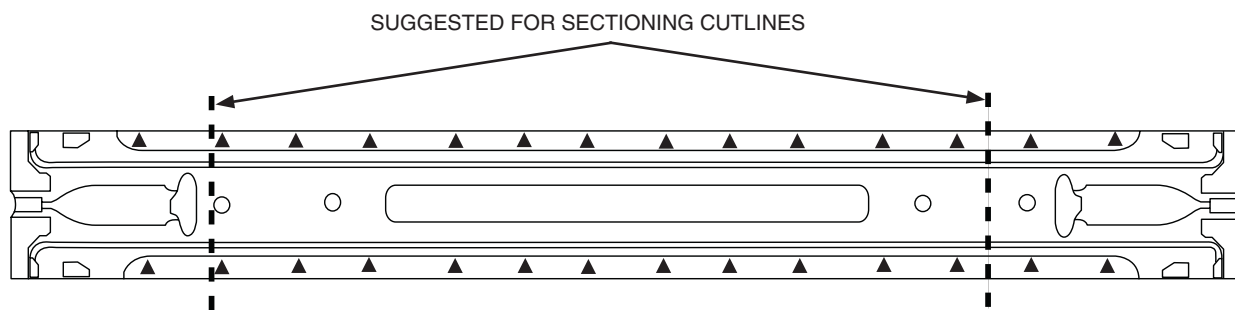

FIGURE 2
- Cross member can be sectioned to repair outboard ends. (Refer to Figure 2).